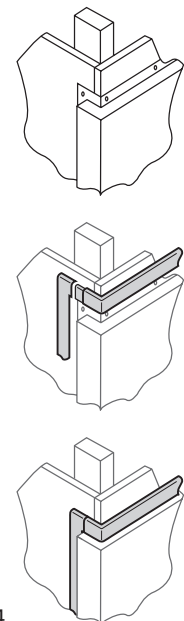

Figure 4
- damaged in such a way that it will not be concealed by our narrower 1 1/4" FTK125 molding kit (Figure 4).